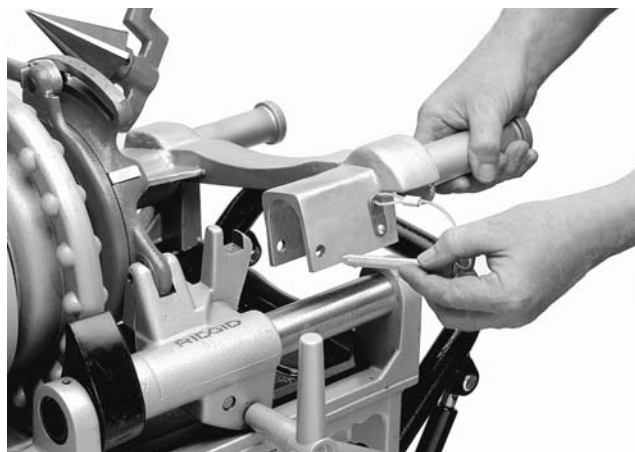

Figure 11 – Locking Pin On 916 Roll Groover Adapter Bracket
4. Attach adapter bracket to 300 Compact by placing C-shaped section of bracket on rear rail (opposite operator) and bringing operator side of bracket down onto operator side rail. Center section of bracket will cover 300 Compact front rail supports (Figure 11).